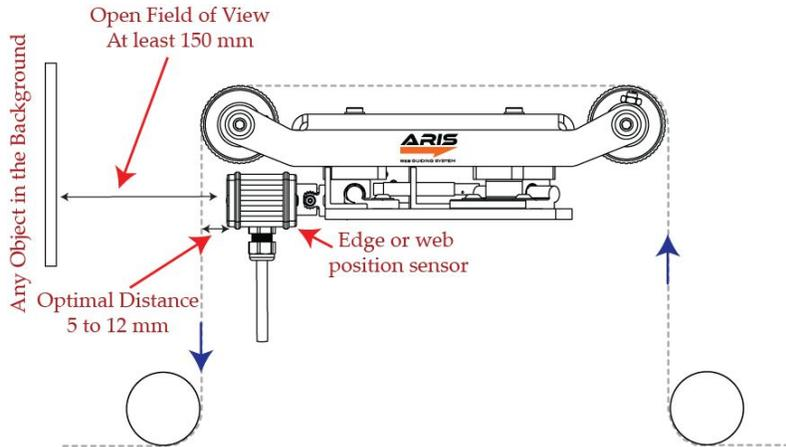

Fig.4: Sensor Installation Considerations
- The sensor should be installed such that the web material is about 5 to 12 mm from the filter lid for the most accurate measurement (See Fig. 4).
WARNING: Even though the sensor working distance is less than 25 mm, the sensor operation may be affected by any object in the field of view of the sensor which is at a distance of 150 mm. Make sure that no object is present within this safe field of view range to ensure proper operation of the sensor (see Fig. 4).